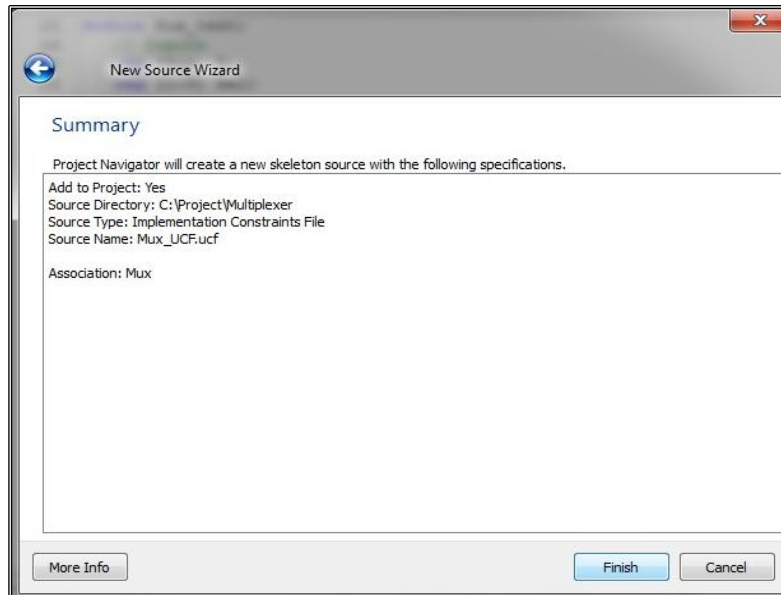

Fig 2.22: UCF summary
22. Check the summary. Click **Finish** (Fig 2.22).